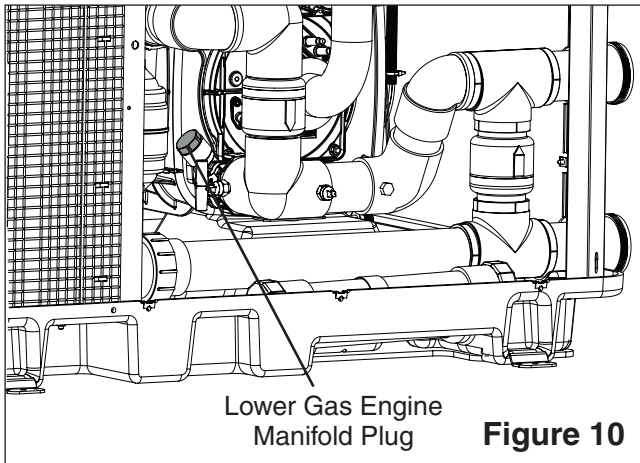

Figure 10
2. Remove the lower gas engine manifold 3/4" brass plug. See **Figure 10**.